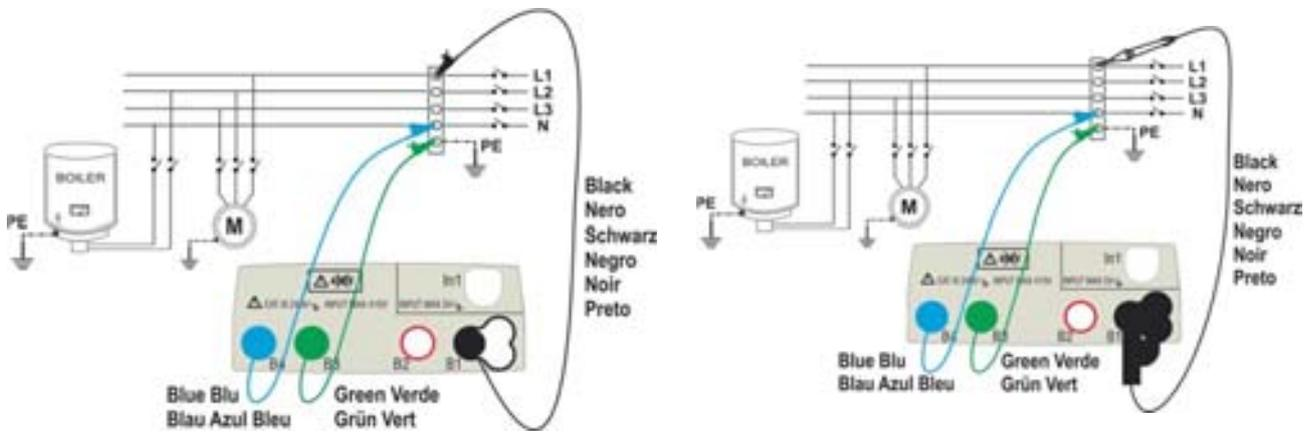
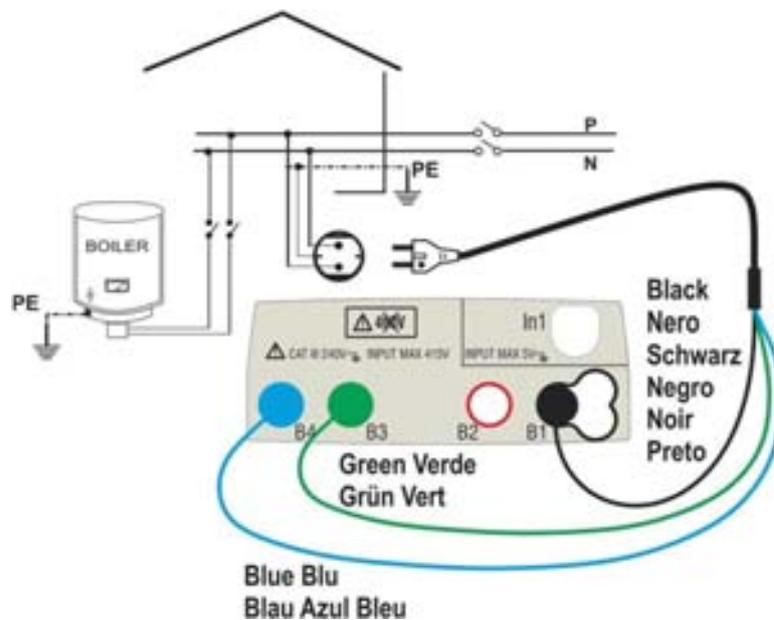

Fig. 10: Insulation test between L-PE and N-PE by means of single cables and remote lead
Fig. 11: Insulation test between L-PE and N-PE by means of shuko plug
5. Connect the alligator clips and/or test leads and/or remote lead to the ends of the conductors to be tested as in Fig. 10 and Fig. 11